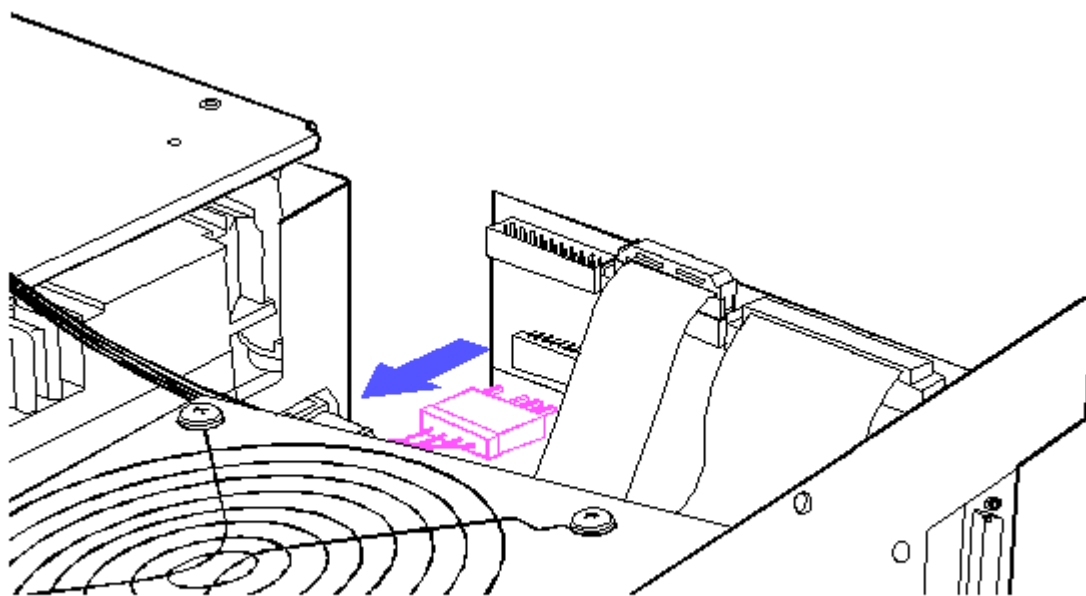

Figure 8-114. Disconnecting the Power Cables
3. Disconnect the universal drive power and power supply cables from the external interface adapter board (Figure 8-114).